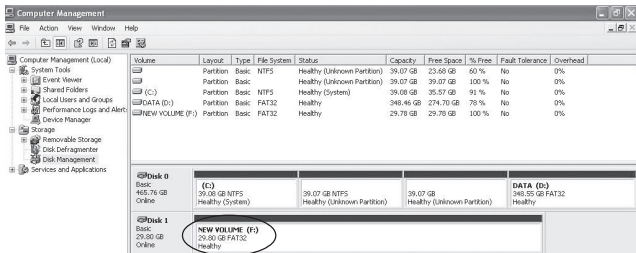

Figure 9
6. Once the hard disk drive formatting procedure is completed, the hard disk drive will be recognized as a **New Volume**. The **New Volume** drive letter may vary, see **Figure 9**.